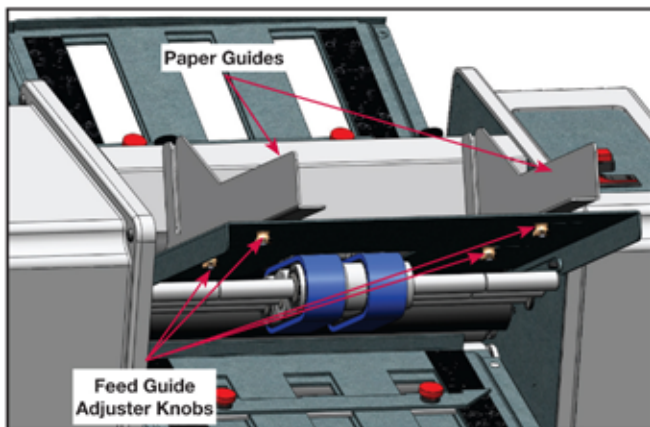

Figure 7: Feed Table Paper Guide Adjustment
2. Carefully insert the paper guides and adjust to the proper widths to ensure documents will load efficiently (see *Figure 7, page 11*).